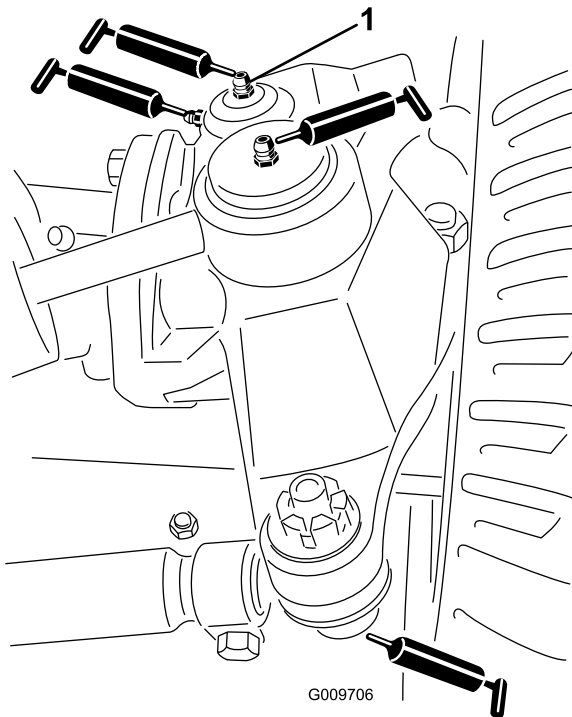

Figure 46
- Steering-cylinder ball joints (2) as shown in Figure 46
- Tie-rod ball joints (2) as shown in Figure 46
- Kingpin bushings (2) as shown in Figure 46